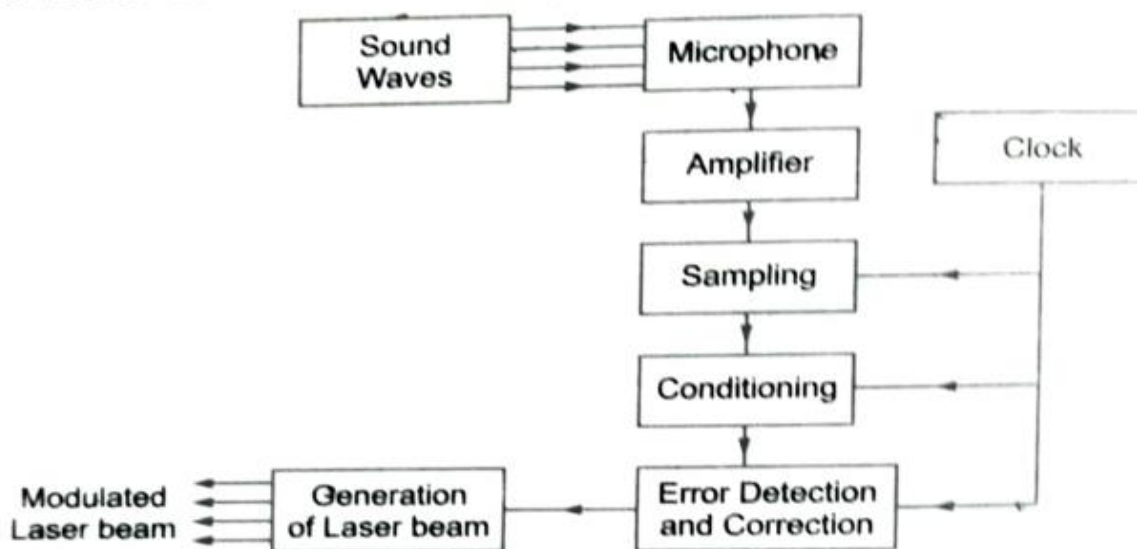

Fig. 10.2: Block Diagram of Modulation of Laser Beam
- The modulation of laser beams is shown by block diagram in Fig. 10.2.